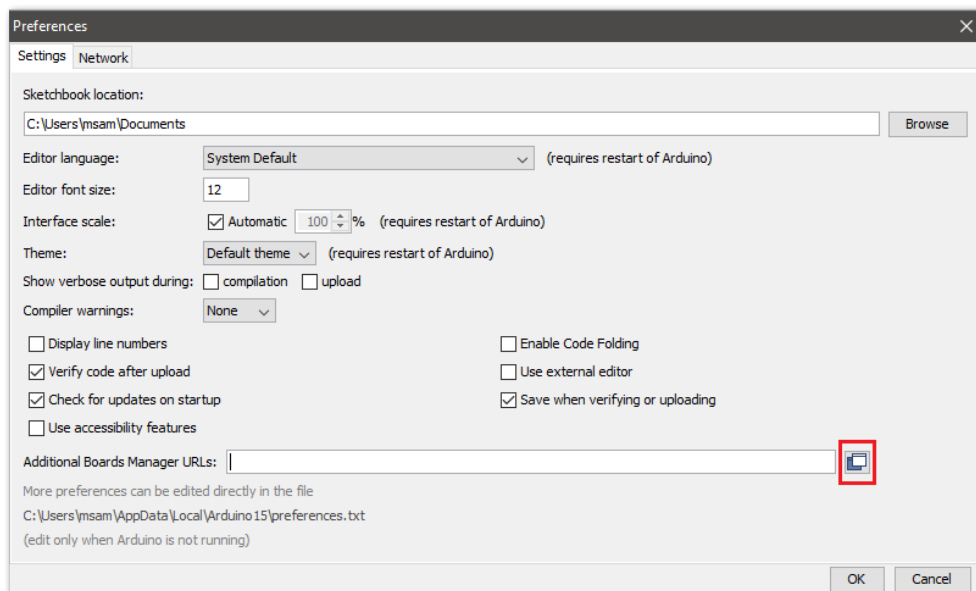

Figure 5: Modifying Additional Board Manager URLs
2. To add the RAK3272S to your Arduino Boards list, edit the **Additional Board Manager URLs** and click the icon, as shown in **Figure 5**.